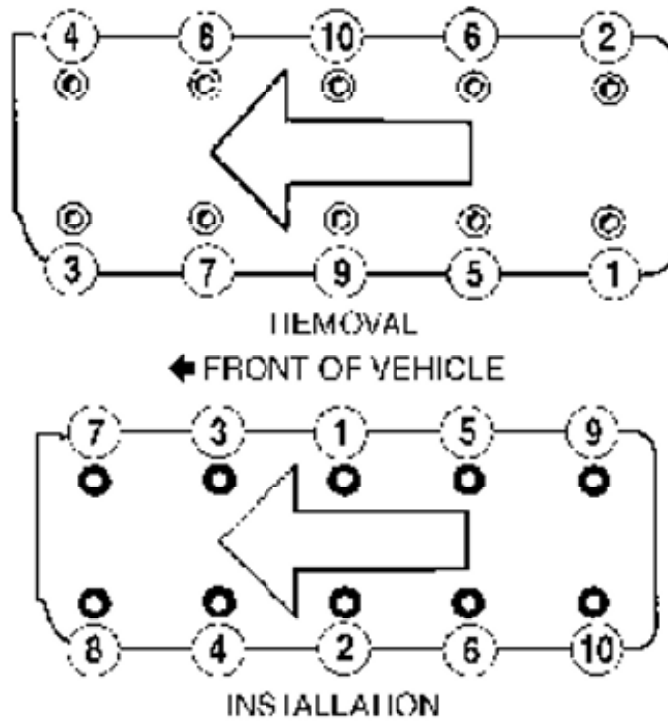

Fig. 3: Cylinder Head Bolt Removal & Installation Sequence
7) Remove spark plug wires and remove distributor cap. Remove cylinder head bolts in proper sequence and remove cylinder head. See Fig. 3.
2) Apply light coat of engine oil on cylinder head bolts before installation. Install and tighten retaining bolts in sequence to specification using 3 stages. See Fig. 3. Refer to the TORQUE SPECIFICATIONS table at end of article.